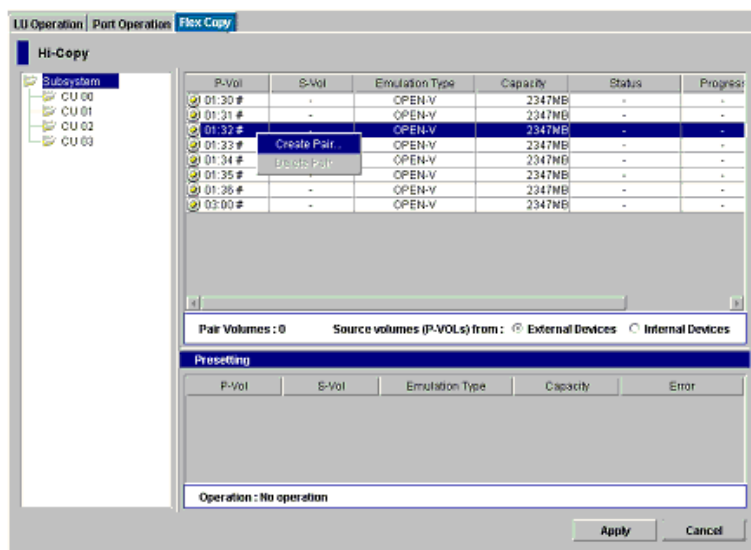

Figure 358: Flex Copy tab (Create Pair Command)
4. In the **P-VOL** column of the Pair List, select one or more XP disk array LUs that are not already set as a copy pair, and right-click to select the **Create Pair** command (see Figure 358 page 872).